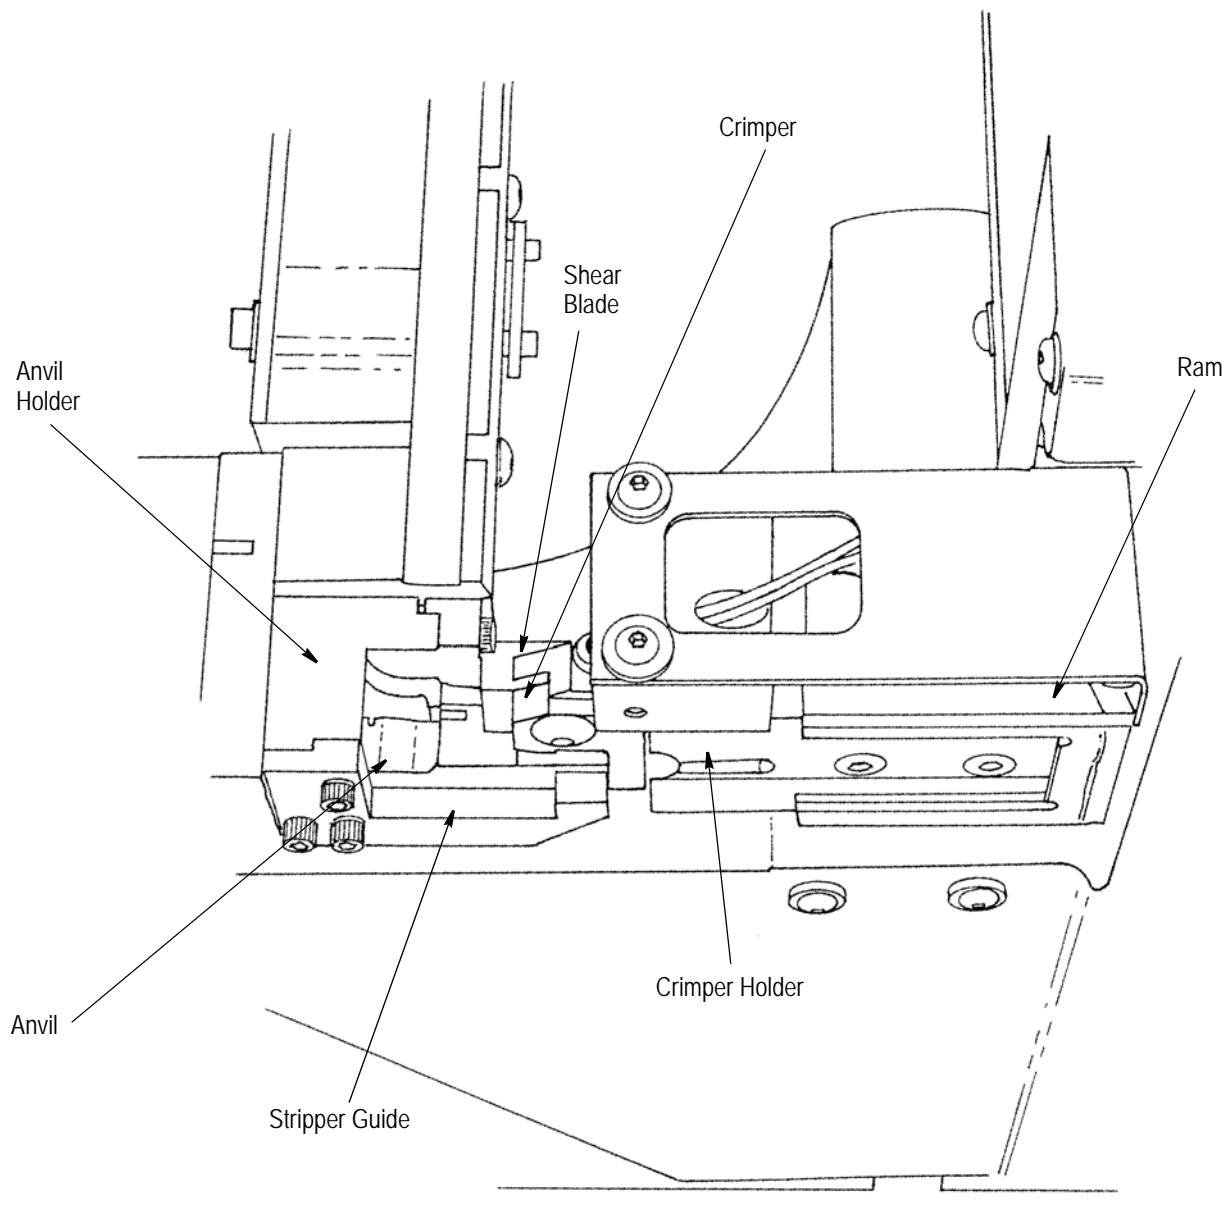

Figure 6
B. Crimp Tooling Group (See Figure 6)